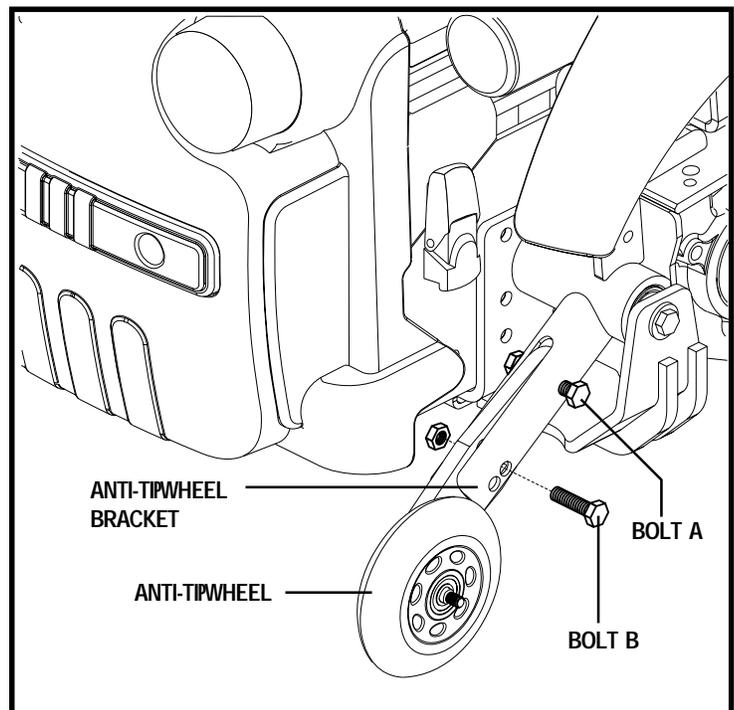

Figure 20. Anti-Tip Wheel Assembly
1. Loosen bolt A. See figure 20.
3. Raise or lower the anti-tip wheel by 1.25 cm or 2.54 cm increments by aligning the appropriate adjustment holes. See figure 20.